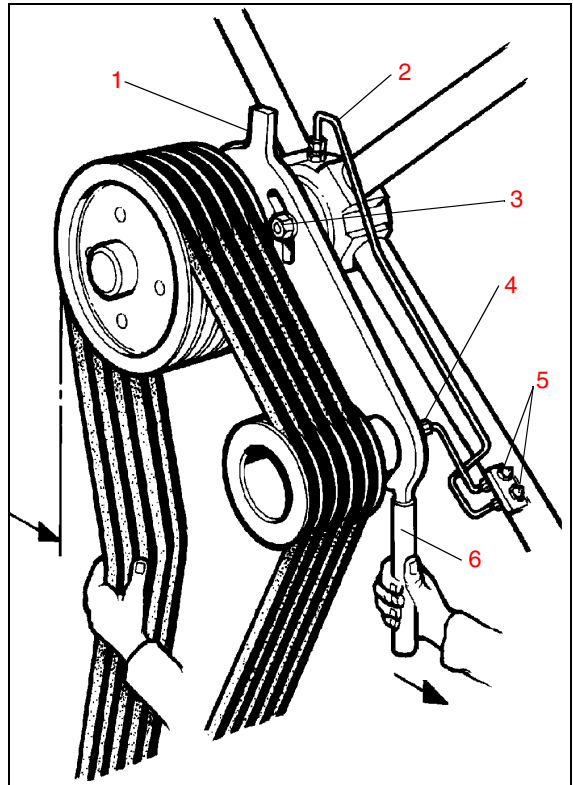

Fig. 32
Remove the mesh guard around the fan belts, grease the fan bearings (2) and jockey pulley bearings (4) **Fig. 32**, using high melting point lithium LM grease at greasing points (5).